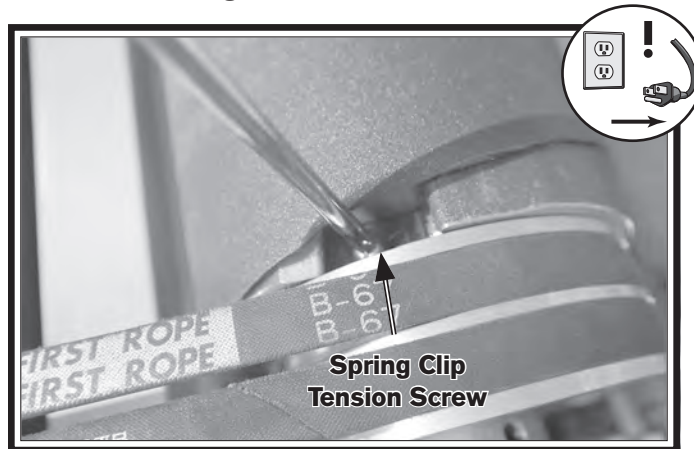

Figure 19. Loosening spring clip tension screw.
- 3.** Starting with right side of drum, turn spring clip tension screw counterclockwise 2–3 turns to release spring clip tension, as shown in **Figure 19**.